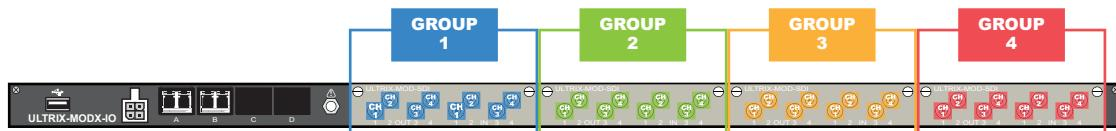

Figure 30 Example of Gearbox Mapping on a Single ULTRIX-MODX-IO Blade with Four ULTRIX-MOD-SDI
**Figure 30** illustrates the connections allocated for Gearbox groups on an ULTRIX-MODX-IO with four ULTRIX-MOD-SDI.